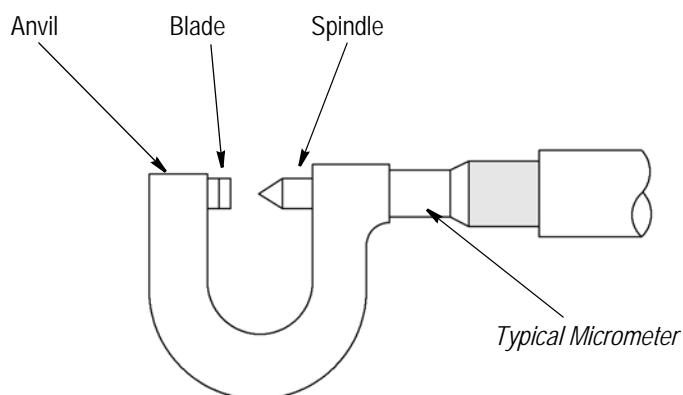
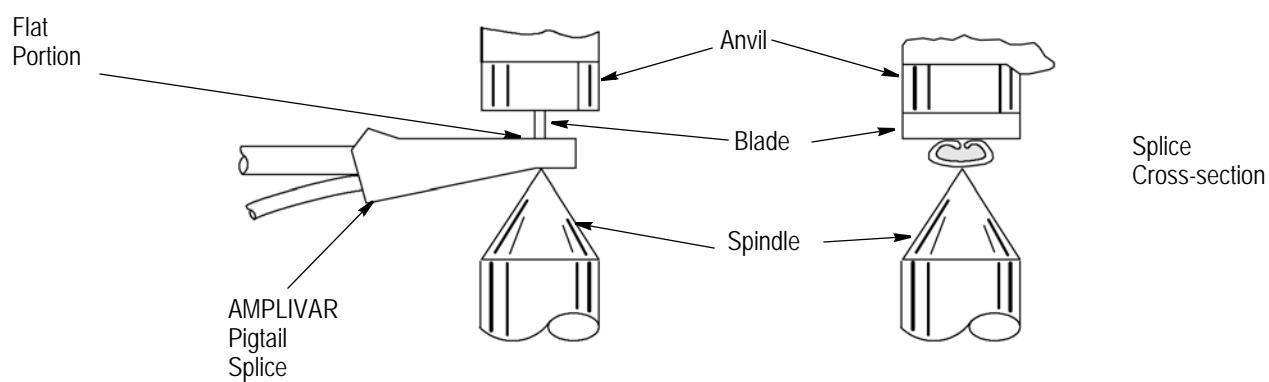

Figure 18
Figure 19
2. Using a crimp height comparator as shown in Figure 18, measure the crimp height of the termination as shown in Figure 19. The crimp height must be within  $+\text{-} 0.08 \text{ mm} [.003 \text{ in.}]$  of the measurement specified for the type terminal and size wire being used, as obtained from your Tyco Electronics Field Engineer.